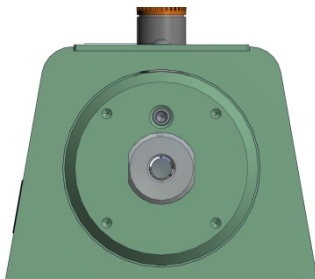

Figure 4.8.2
2. Check the Universal Strength Machine to ensure that there are 4 holes located on the right side of the Base around the Spindle Guide (Item 2, Figure 7.5). If so, proceed to the next step. If the holes are not present, refer to the provided rework drawing to drill and tap the required locations. See Figure 4.8.2. below.